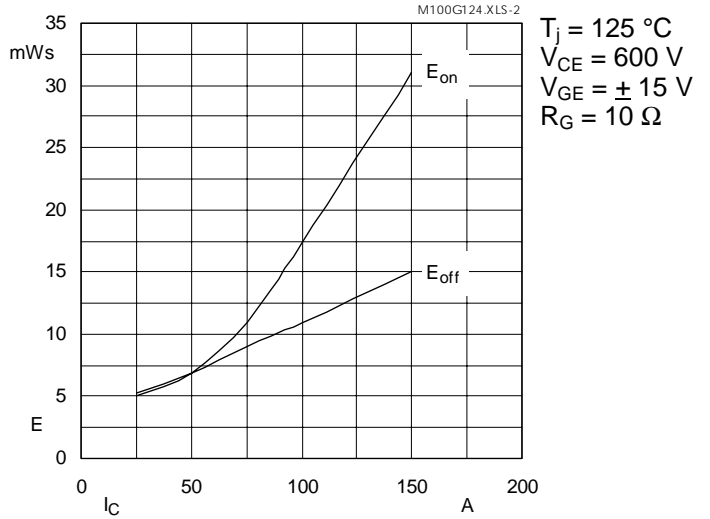

Fig. 2 Turn-on /-off energy  $= f(I_C)$
5) See fig. 2 + 3; RGoff = 10 Ω